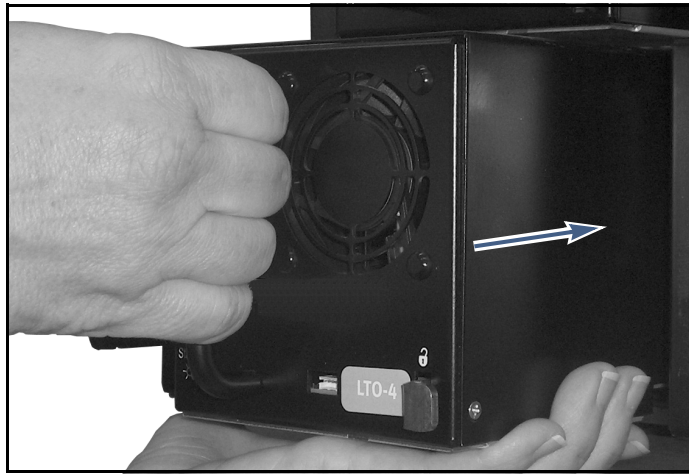

Figure 11 Installing the drive sled into the library.
3. While supporting the bottom of the drive sled, slide the new drive into the empty drive bay (Figure 11). Push the drive in until an audible click indicates that it has locked into place.